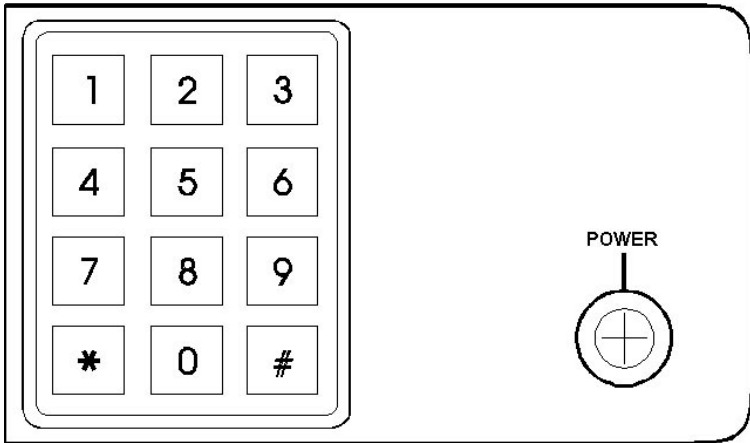

Figure 4 - Control Panel with Remote Options and Keypad
The Keypad Option is compatible with the **MDX** radio (see Figures 4 & 5). When the desktop station is equipped with the Keypad/Remote board, the unit is capable of placing individual calls to other mobiles on the system as well as making interconnect calls. The board also allows operation with a five (5) function remote RC-1000 controller when tone remote control board 19A704686P8 is installed in the station.